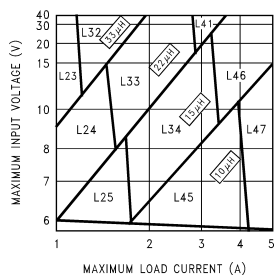
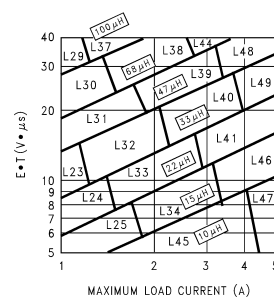

Figure 21. LM2677-3.3
Figure 24. LM2677-ADJ
Step 3: Determine the inductor required by using one of the four nomographs, Figure 21 through Figure 24. Inductor Manufacturer Part Numbers provides a specific manufacturer and part number for the inductor.
Step 5: Determine an input capacitor from Table 7 for fixed output voltage applications. Use Table 3 to find the specific capacitor type. For adjustable output circuits select a capacitor from Table 3 with a sufficient working voltage (WV) rating greater than $V_{in\ max}$, and an rms current rating greater than one-half the maximum load current (2 or more capacitors in parallel may be required).
Step 3: Use the nomograph for the 3.3V device, Figure 21. The intersection of the 16V horizontal line ($V_{in\ max}$) and the 2.5A vertical line ($I_{load\ max}$) indicates that L33, a 22 μ H inductor, is required.
Step 3: To use the nomograph for the adjustable device, Figure 24, requires a calculation of the inductor Volt•microsecond constant (E•T expressed in V•μs) from the following formula:
Using Figure 24, the intersection of 27V•μs horizontally and the 2A vertical line (I_{load} max) indicates that L38, a 68μH inductor, should be used.
Important Note: When using the adjustable device in low voltage applications (less than 3V output), if the nomograph, Figure 24, selects an inductance of 22μH or less, Table 10 does not provide an output capacitor solution. With these conditions the number of output capacitors required for stable operation becomes impractical. It is recommended to use either a 33μH or 47μH inductor and the output capacitors from Table 10.